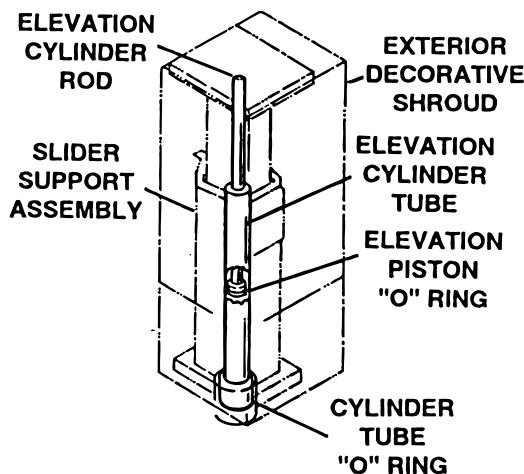

**Figure 1-12. Slide Function Cylinder**
3. Slide Function Cylinder - This cylinder is also a double action cylinder. It differs from the Kidney Lift and Trendelenburg cylinders in that the piston is connected to rams which exit from each end of the cylinder tube. The ends of the rams connect to each end of the table top. The cylinder tube is connected to the main side frame. When hydraulic fluid is pumped into one side of the cylinder the entire table top assembly will slide longitudinally. See figure 1-12.